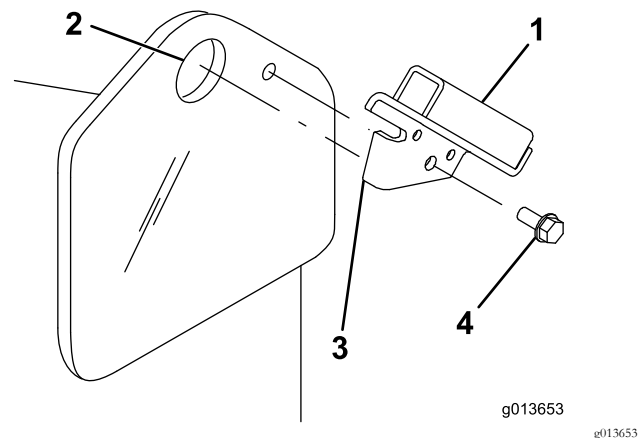

Figure 3
1. Insert the tab on the shield bracket into the lift point hole on the traction unit, with the hole in the bracket aligning with the small hole in the traction unit frame (Figure 3).
Note: There is a right and left bracket. Ensure that you install the correct bracket on each side. The tab should be in the lift point hole and the bracket should be on the outside of the frame (Figure 3).
2. Secure the bracket to the frame with a self-tapping screw (Figure 3).